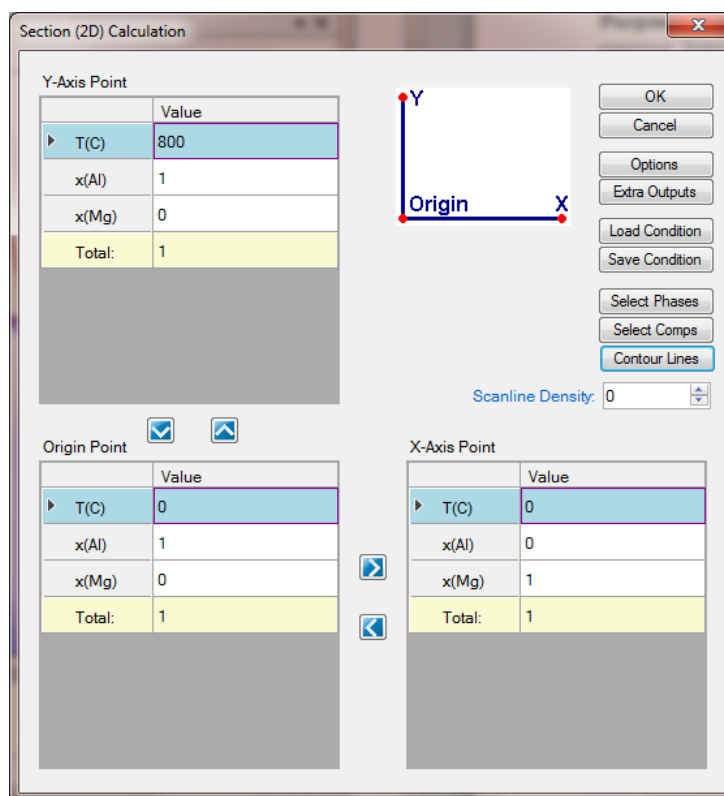
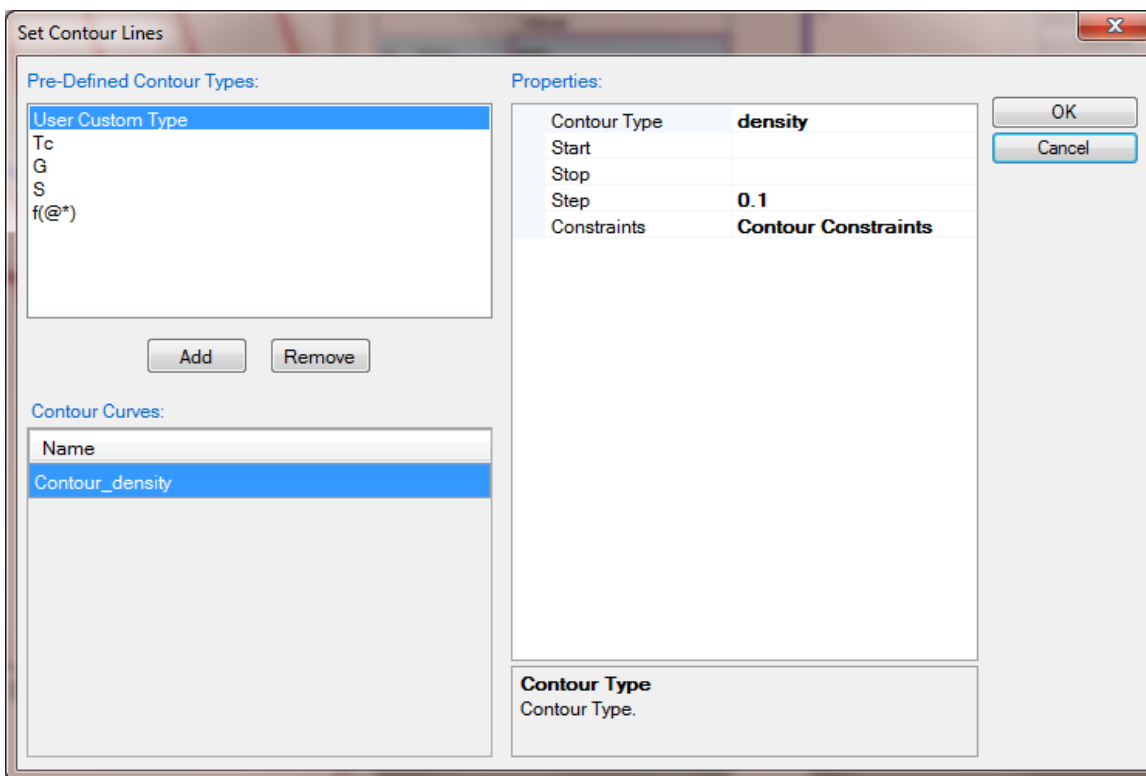

Figure 1.14.1: Setup calculation for the Al-Mg binary phase diagram, then press "Contour Lines"
Figure 1.14.2: Type in “density” for the Contour Type in the “Properties” window
- First set up the calculation condition as shown in Figure 1.14.1 in the same way as we did to calculate Al-Mg binary phase diagram (see Example_#1), then click "Contour Lines" to open the contour line dialog as shown in Figure 1.14.2;
- Choose "User Custom Type" and click Add. Type in "density" for the Contour Type in the "Properties" window as shown in Figure 1.14.2, then press OK;